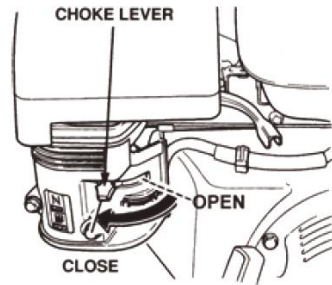

FIG.7
9.3 Place the choke lever (FIG. 7) in the "CLOSED " position if starting a cold engine.
9.7 If the engine has started, slowly return the choke lever (FIG. 7) to the OPEN position. If the engine has not started repeat steps 1 through 6.